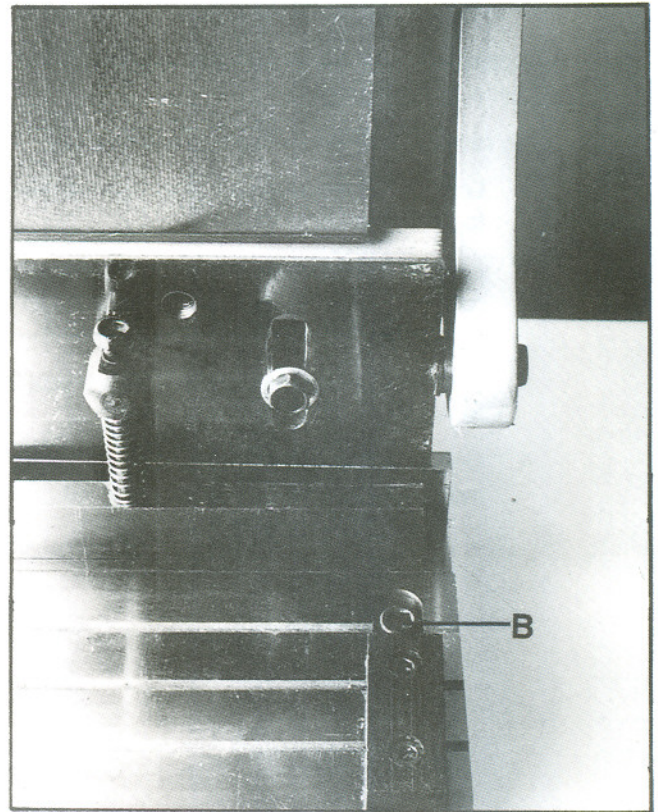

Fig. 7
3. Adjust the hold down to within 1/4" above the table when the shear blade is in the up position by turning two hex cap bolts (A, Fig. 7). When the blade starts it's downward travel, the hold down should immediately hold the work piece in place.
1. Loosen two hex cap screws (B, Fig. 7) on each end of the table.